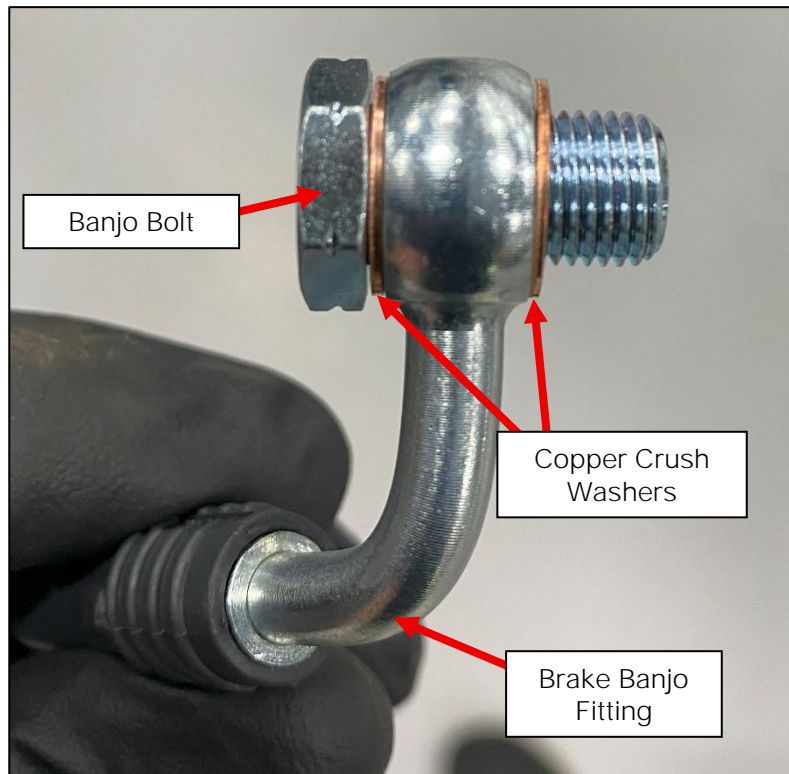

Figure 12
4. Locate (1) one Rear Outer Brake Line, (1) one Banjo Bolt and (2) two Crush Washers. The Banjo Fitting must match the OE Bano Fitting so it will orient on the Caliper correctly. Place a Crush Washer onto the Banjo Bolt, then insert the Banjo Bolt through the Banjo Fitting of the Brake Line. Place the other Crush Washer onto the other side of the Banjo Bolt. *Figure 12.*